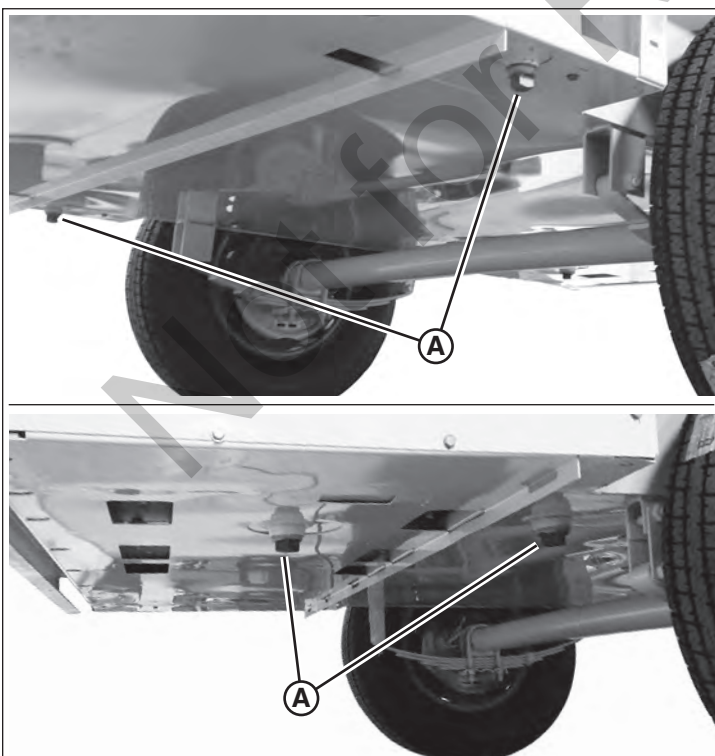

Figure 49
1. Position a suitable container beneath any of the four fluid containment drains (A, Figure 49), located beneath the unit toward the rear.